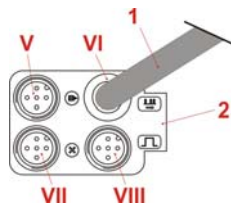
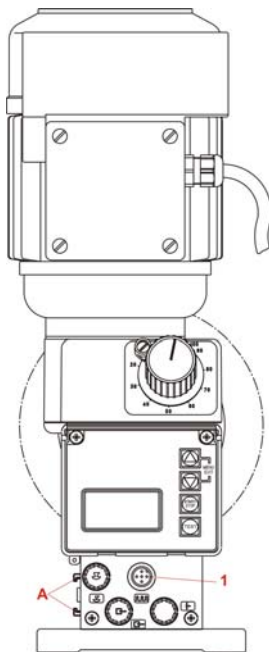

Fig. 8.1 Fitting of the Dongle-Box 1
Fig. 8.2 Fitting of the Dongle-Box 2
- ✘ Fit the dongle box (Fig. 8.1) to the rail of the pump provided for this purpose (Fig. 8.2, Pos. A):
- ✘ Slide the dongle box (Fig. 8.1) onto the rail on the left side of the pump (Fig. 8.2, Pos. A), until it snaps into place.
- ✘ Connect the connection cable (Fig. 8.1, Pos. 3 and 8.3, Pos. 2) to the input for pulse / standard signal (Fig. 8.2, Pos. 1).
If, before upgrading with a dongle box, a plug is connected to the input for pulse / standard signal (see Fig. 8.2, Pos. 1), then this plug can be connected after the upgrade to plug VIII (see Fig. 8.1, Pos. VIII) of the dongle box.